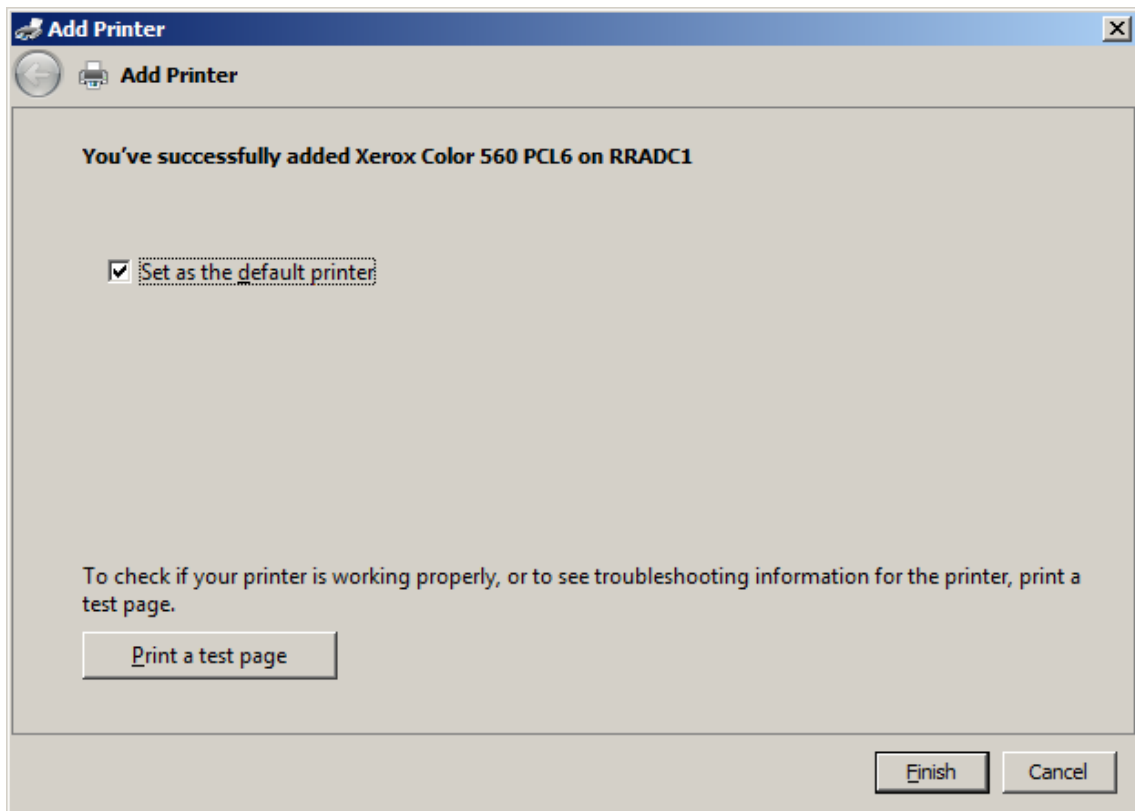

Figure 10.35 – Successful printer installation
- 17) Once you have selected the proper driver or the computer has automatically installed the proper driver you will be presented with Figure 10.35 as shown below indicating a successful printer installation.